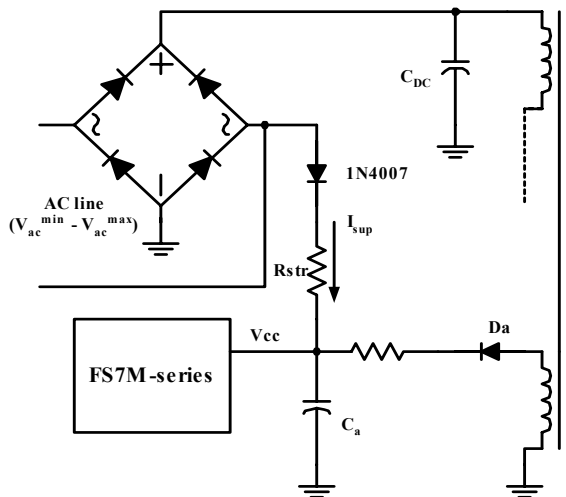
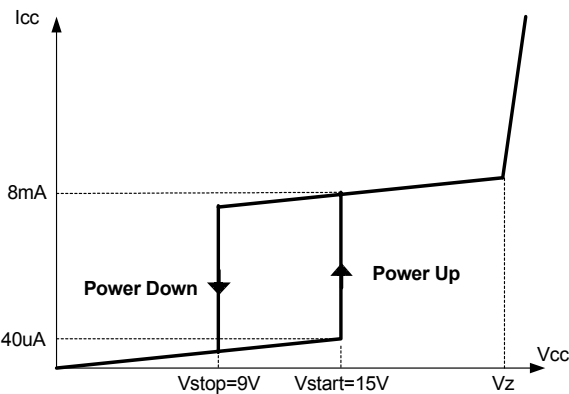

Figure 4. Startup circuit
Figure 5. Relation between operating supply current and Vcc voltage
**1. Startup :** Figure 4 shows the typical startup circuit and transformer auxiliary winding for FS7M-series. Because all the protections are implemented as latch mode, AC startup is typically used to provide a fast reset as shown in Figure 4. Before FPS begins switching operation, only startup current (typically 40uA) is consumed and the current supplied from the AC line charges the external capacitor ( $C_a$ ) that is connected to the Vcc pin. When Vcc reaches start voltage of 15V ( $V_{START}$ ), FPS begins switching, and the current consumed by FPS increases to 8mA. Then, FPS continues its normal switching operation and the power required for this device is supplied from the transformer auxiliary winding, unless Vcc drops below the stop voltage of 9V ( $V_{STOP}$ ). To guarantee the stable operation of the control IC, Vcc has under voltage lockout (UVLO) with 6V hysteresis. Figure 5 shows the relation between the FPS operating supply current and the supply voltage (Vcc).